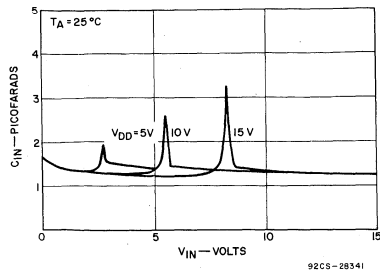

Fig. 10 — Input capacitance of a buffered 2-input NOR gate (CD4001B).
**Input Capacitance**—Figs. 10 and 11 show the dynamic input capacitance of the RCA buffered and unbuffered 2-input NOR gates, respectively. The large MOS transistor geometry of the unbuffered NOR gate is responsible for the higher peak input capacitance (Miller effect) in the linear switching range. The longer dwell in this linear region also tends to broaden the Miller capacitance,